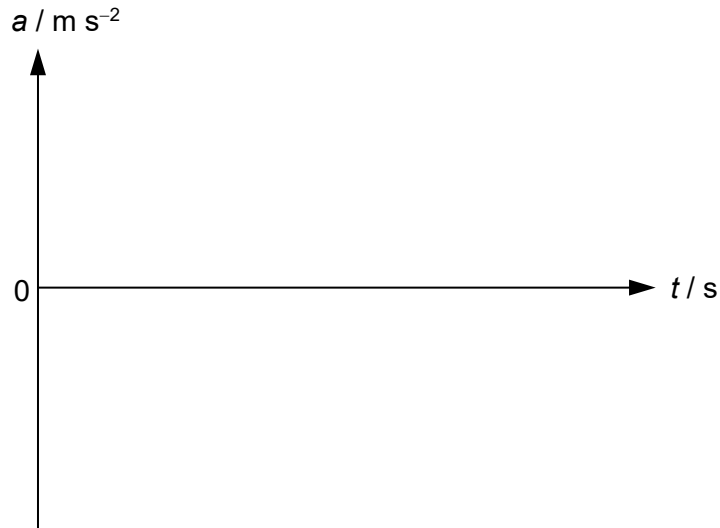

Fig 3.3
2. If the mass of ball A is now greater than the mass of ball B, sketch on Fig. 3.3, a new set of graphs to show the variation with time t of each ball's acceleration a , over the same duration as in (b)(iv)1.